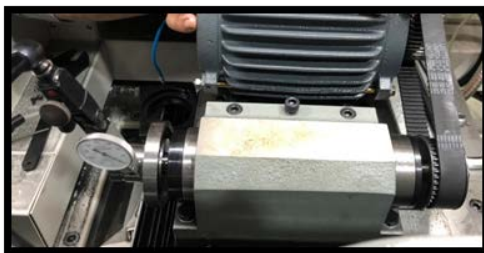

Fig 6.1
4. Disassemble the dust proof cover. (Part No. 4) (Note : Disassemble the blowing tube (A) it's not necessary.)
7. Put the gauge on side of spindle, where's position is shown on the Fig 6.1 and 6.2, move X axis to measure the parallelism of spindle difference.